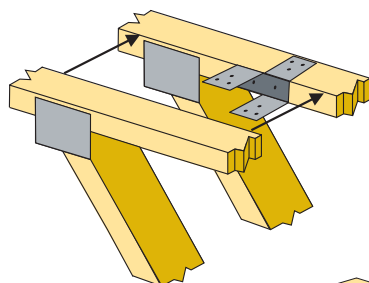
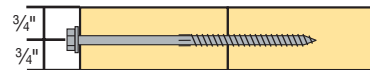

FIGURE B9-11
FIGURE B9-12
- Multi-ply parallel chord trusses have special connection requirements due to the 3x\_ or 4x\_ configuration and shall be joined together according to the Truss Designer's specifications. Connection options typically include metal framing anchors (Figure B9-11, page 71), Structural Sheathing, metal gussets and proprietary high strength screws (Figures B9-12 and 13, page 71).